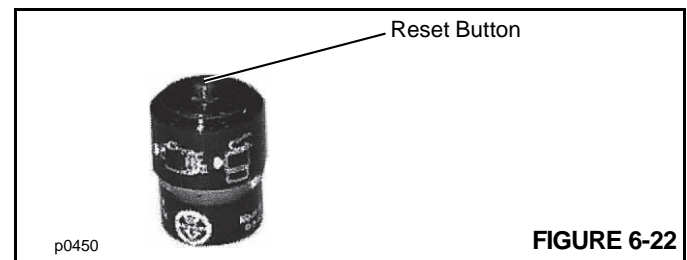

FIGURE 6-22
4. Reset the air cleaner restriction indicator by pushing in the reset button (Figure 6-22).